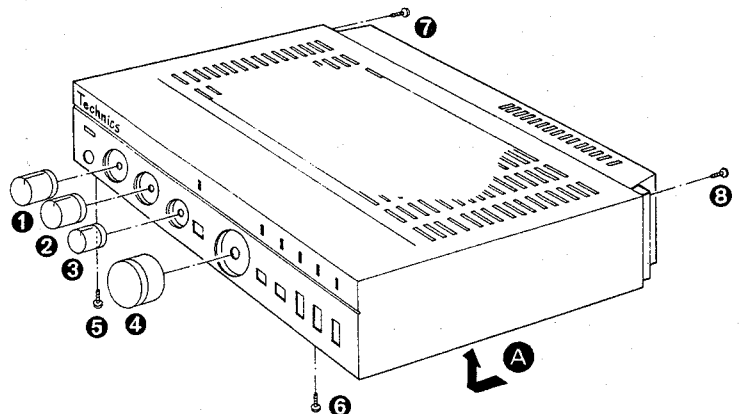

Fig. 1
1. Remove the 4 knobs (Fig. 1: ① ~ ④).
2. Remove the 4 setscrews (Fig. 1: ⑤ ~ ⑧) of the cabinet.
3. Pull the cabinet toward you and lift it up, holding it by the right and left edges, in the direction of arrow **A** in Fig. 1.